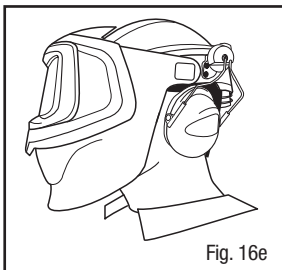

Fig. 16e
- **Usage:** When in use, the wire bands must be pushed fully inward toward your head until you hear a “click” (Fig. 16e). The cup cushions must fully enclose the ears and seal tightly against the head. For best attenuation performance, pull hair back from under the ears so that the cups sit close on the head.